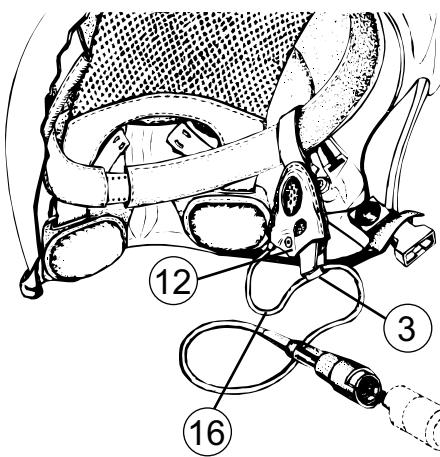

FIGURE 12
Close the pocket using the press-stud ⑫ (figure 12).